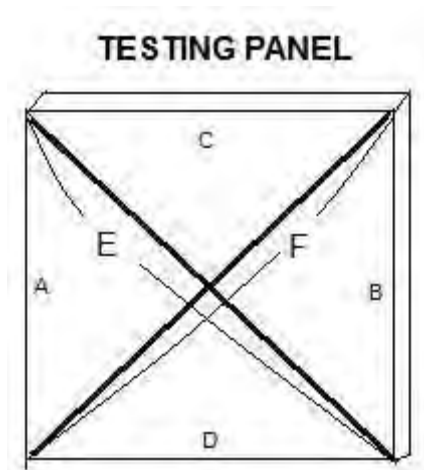

Figure 4-7.2
2. Lower the guard, then do test trimming to A, B, C & D (Fig. 4-7.2) of the testing panel.
3. After cutting, measuring the cutting width of E & F (Fig. 4-7.2). As a test for square cutting, the length of them MUST be the same.